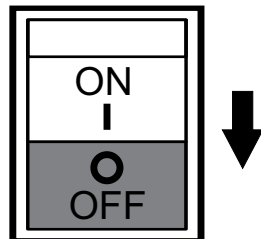

Figure 27. Operation Switch (OFF)
4. To shut-down the engine, place the generator's operation switch (Figure 27) in the **OFF** position.